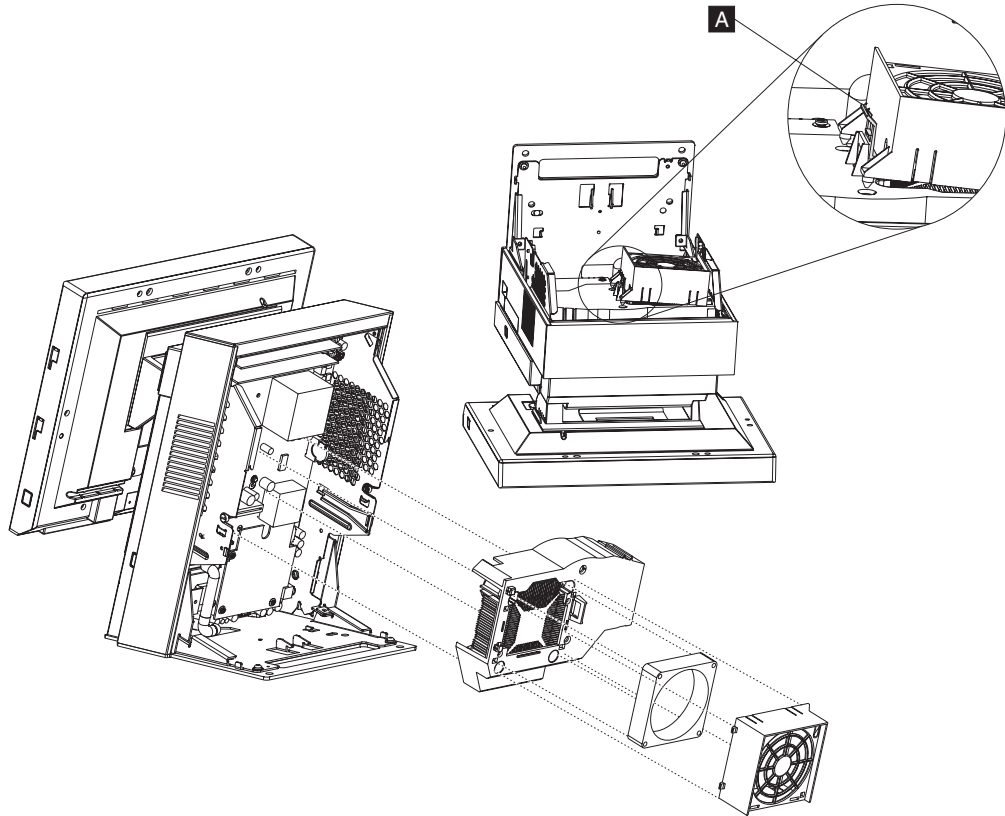

Figure 29. Removing the processor fan/ heatsink assembly. The placement of the unit in the top view is for illustrative purposes only.
6. Press the latch (**A** in Figure 29) on the processor fan bracket and rotate fan bracket away from the duct.